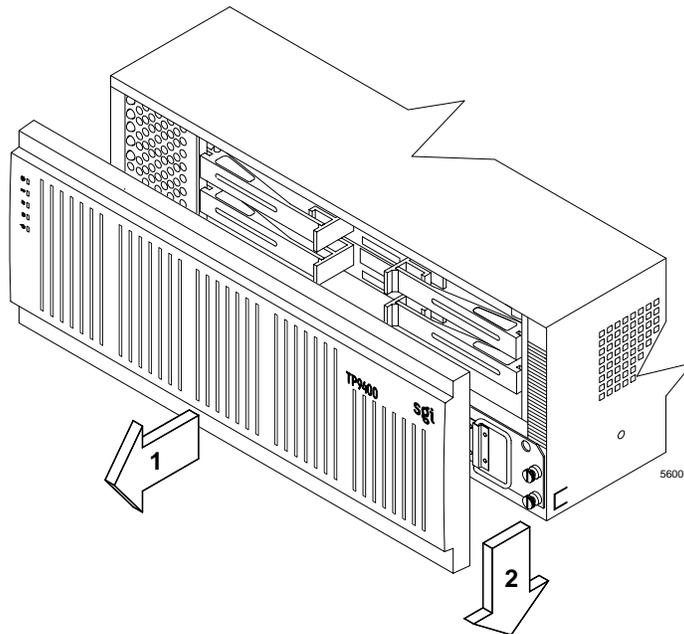

Figure 3-1 Removing the Front Cover of the Controller Enclosure
To access the controller enclosure components, cables, indicator lights, and switches, you must remove the front cover (Figure 3-1).
1. To view all of the indicators, remove the front cover of the controller enclosure (Figure 3-1 on page 25) and remove the rear access panel on the rack.
4. If all indicators show a “normal status,” replace the front cover (Figure 3-1 on page 25), otherwise, run the storage management software (TPSSM7) to diagnose and repair the problem.